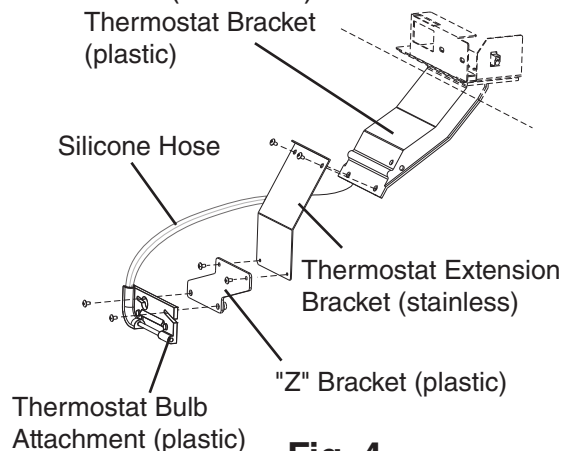

Fig. 4
- g. Remove the 2 screws securing the thermostat bulb attachment (plastic) to the thermostat extension bracket (stainless). See Fig. 4. Use the 2 screws to attach the "Z" bracket (plastic) to the thermostat extension bracket (stainless).